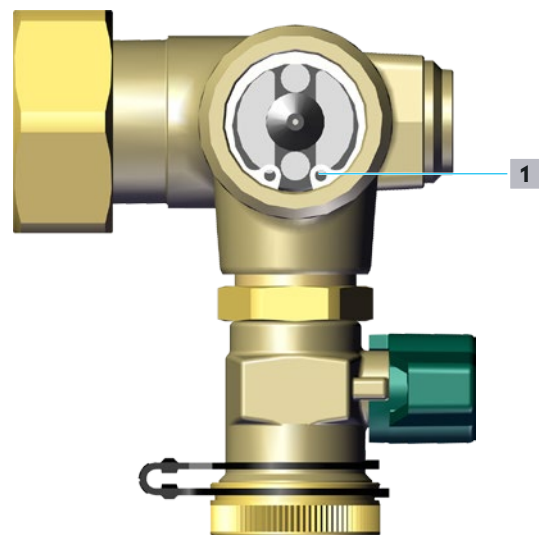

Fig. 36: Circlip
- 1** Loosen the circlip (position **1** in Fig. 36 on page 38) with suitable circlip pliers.
- 2 Insert the circlip (position **1** in Fig. 36 on page 38).